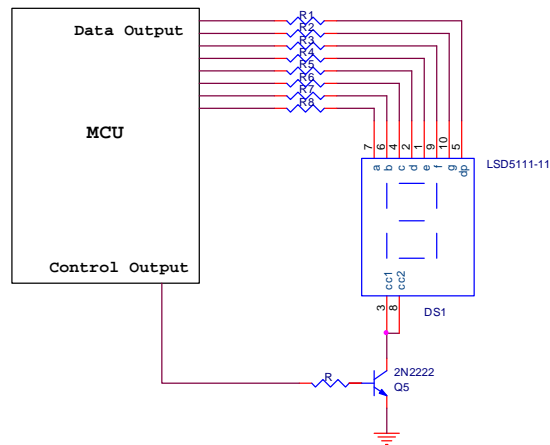

Figure 2, schematic for 7-seg
1. Connect a 7-segment display as illustrated in Figure 2 and calculate the value of the series resistor to set the segment current to not overload your MCU I/O pin output current and satisfy the requirements of the 7-segment. Also calculate the transistor base resistor to ensure it would saturate with the maximum 7-segment current with an overdrive factor of 1.